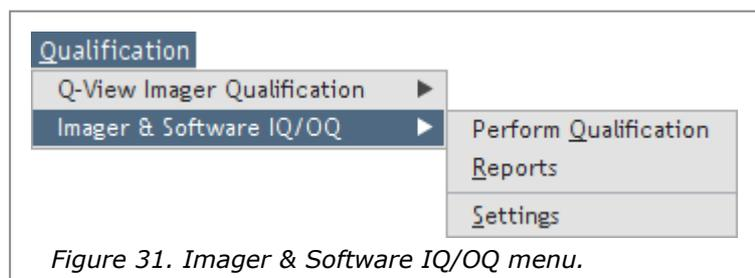
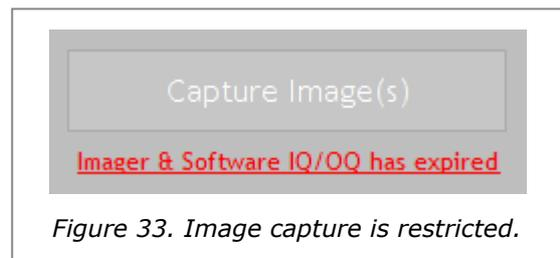

Figure 31. Imager & Software IQ/OQ menu.
Figure 33. Image capture is restricted.
menu (Figure 31). The settings are accessible to only administrators.
- acquisition for non-admin users when IQ/OQ expires:** When selected, non-administrator users are not allowed to capture images when IQ/OQ expires (Figure 33).
In the Q-View Software, select **Qualification > Imager & Software IQ/OQ > Perform Qualification** from the menu (Figure 31) or click **Imager & Software IQ/OQ has expired** (Figure 33) from the **Image Acquisition** screen. The process takes about 15 minutes to complete.
To view and export qualification reports, select **Qualification > Imager & Software IQ/OQ > Reports** (Figure 31) from the menu.